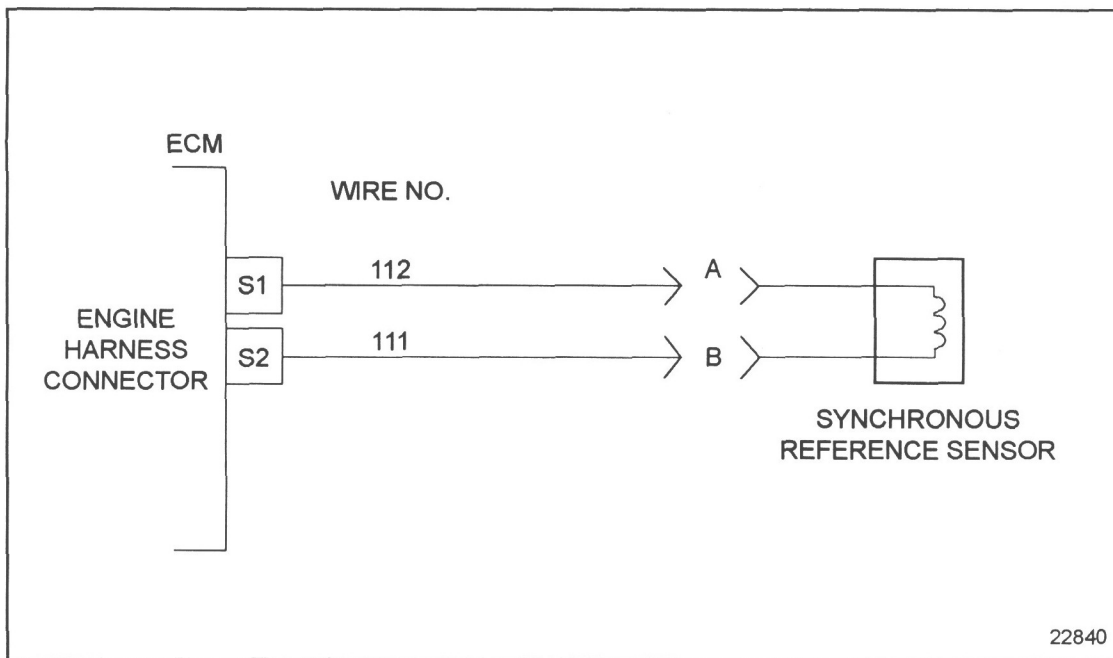

Figure 42-3 Engine Harness Connector to Synchronous Reference Sensor
2. Measure resistance between sockets S1 and S2 on the engine harness connector. See Figure 42-3.